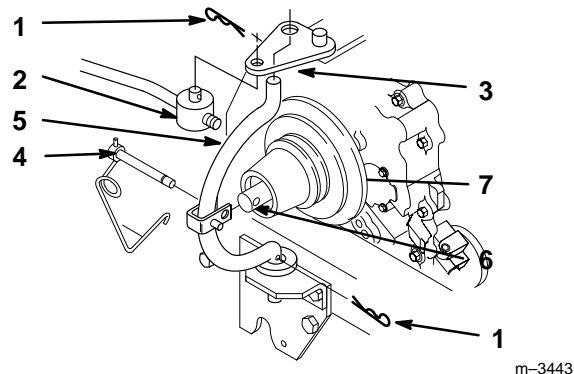

Figure 32
4. Unlatch and remove locking clevis pin that secures yoke assembly to clutch shaft. Pivot yoke out and forward to remove from clutch shaft and engagement plate (Fig. 32).
5. Replace belt in inside pulley groove (Fig. 32).
6. Assemble yoke and engagement plate and attach locking clevis pin, trunnion and hairpin cotters to secure (Fig. 32).